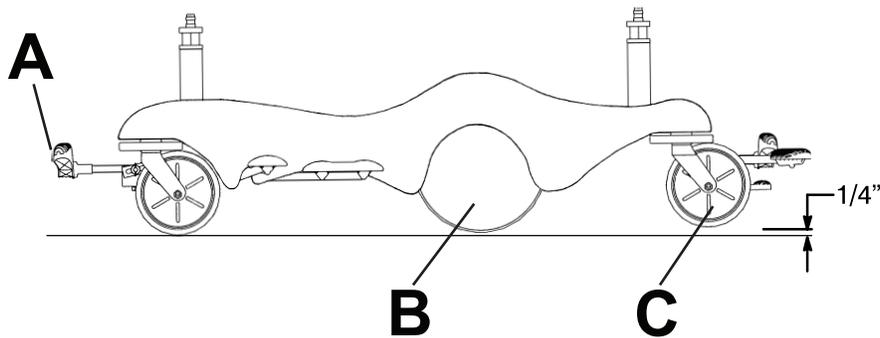

Figure 11 – Transporting with Big Wheel
4. Push down on the steer (green) side of the brake/steer pedal (A) to put the brake/steer pedal in the steer position and apply **Big Wheel** (Figure 11).